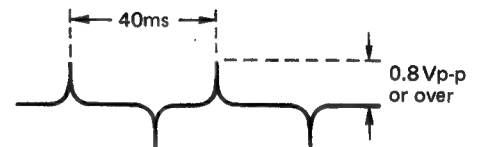

Figure 8-14.
2. Monitoring TP9 with an oscilloscope (internal trigger), check that the requirements given in Figure 8-14 are met.